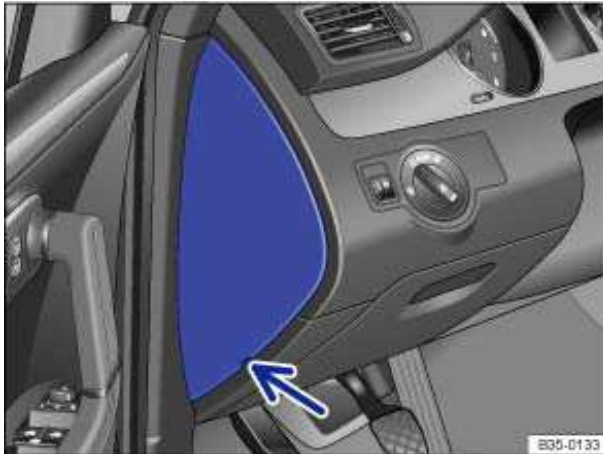

Fig. 182 On the driver side in the instrument panel: Fuse box cover.
- Insert a flat object, such as a screwdriver from the vehicle tool kit, into the opening ⇒ fig. 182 (arrow) and carefully lift off the cover.